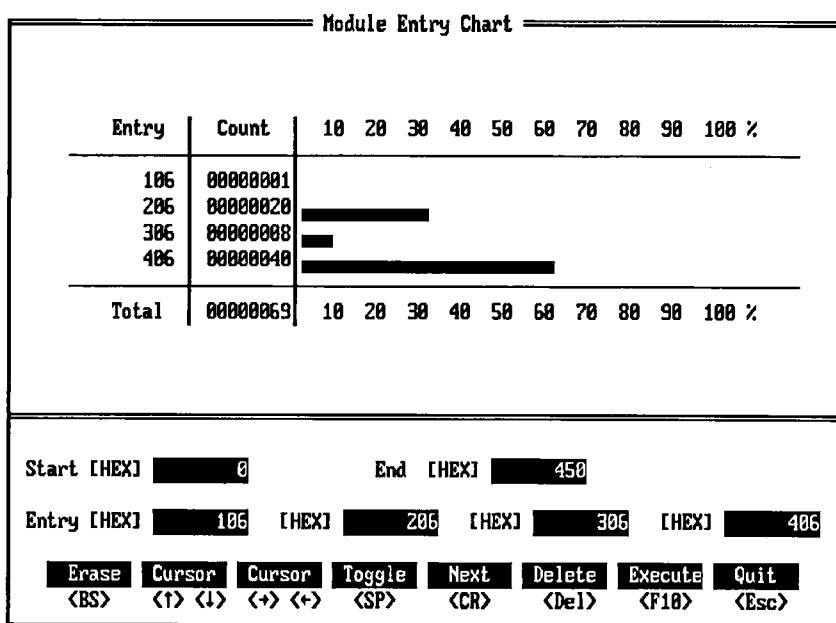

Figure 5-67 Module Entry Chart
3. However, the rearrangement could still be inefficient, because the number of times a module is executed (which is also a key performance factor) is not known. So the Entry Analysis (Section 5.2.8.1) was performed with "count" result shown in Figure 5-67 or as follows:
The Module Entry Chart (Figure 5-67) has two sections, the "entry" (bottom) section and the "bar graph" (top) section. All data required for the performance analysis are input in the entry fields provided in the "entry" section, where-